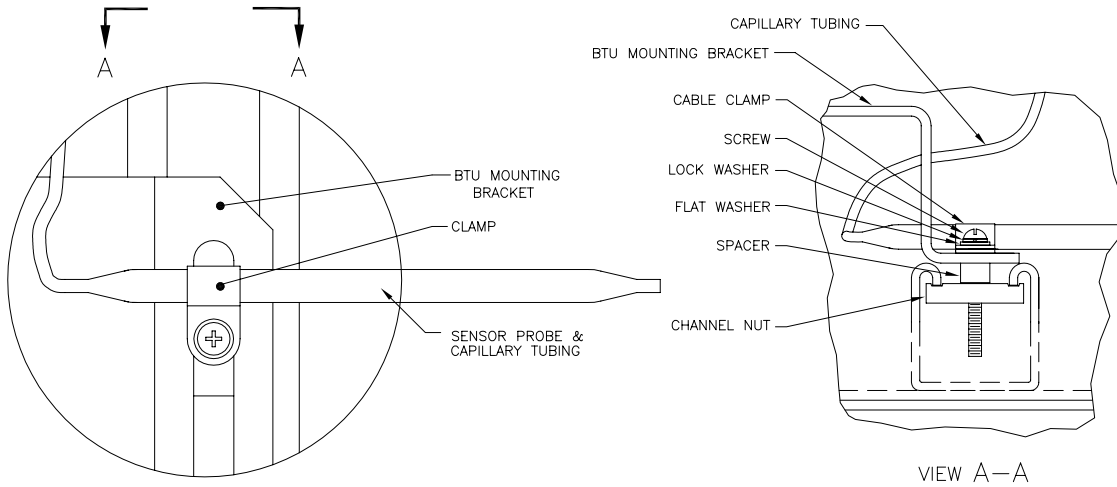

Figure 46 Temperature Probe Installation
- 7) Insert screw with washers still in place through hole located on the mounting clip and re-insert through mounting bracket into channel nut (see Figure 46).